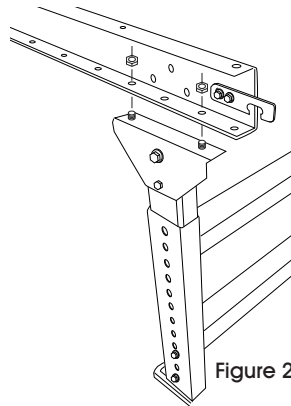

Figure 2
2. **Bolting two H-Stands to one conveyor frame:** Position H-Stands on the end of the conveyor frame. Fasten bolts through conveyor and H-Stand. (See Figure 2)